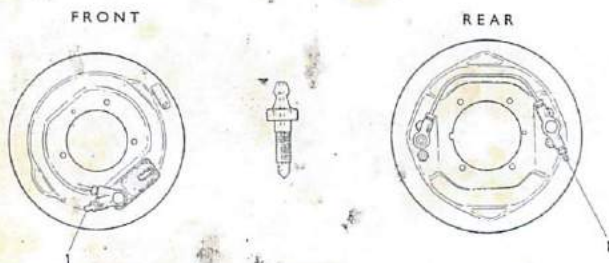

Fig. 21. Location and Design of Bleeder Screws
2. Connect a suitable hose to the bleeder screw 1, fig. 21, inside the left rear wheel.